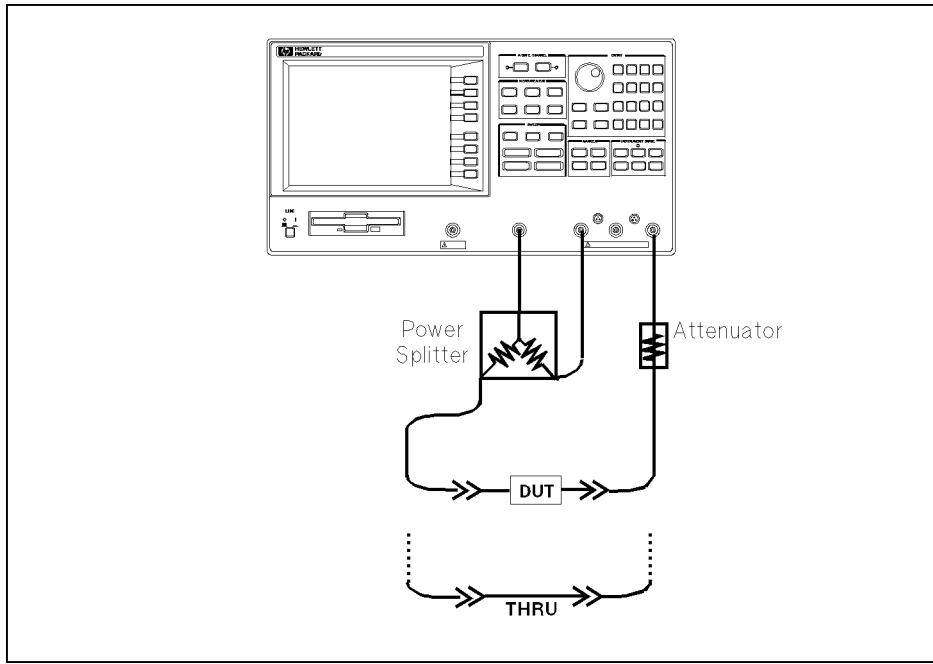

Figure 10-14. Gain Compression Measurement Setup
Set up the HP 4395A as shown in Figure 10-14.
2. Connect a THRU calibration standard between the measurement cables in place of the DUT (see Figure 10-14).